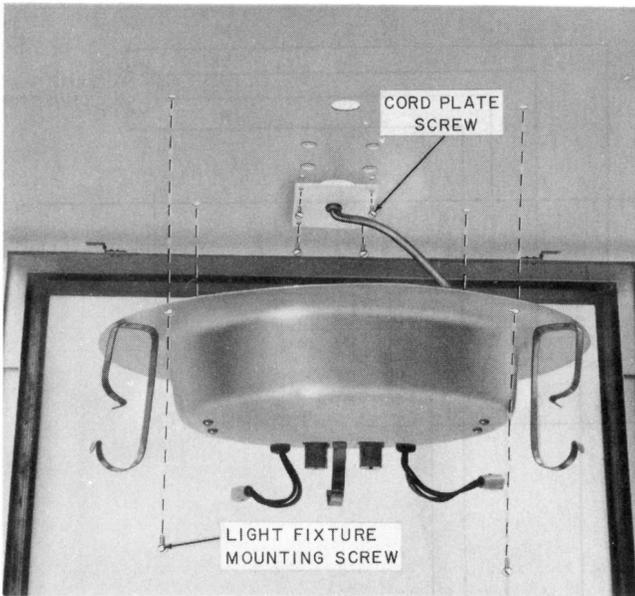

Fig. 9 — Removal of B-185379 Light Fixture
- (d) Loosen the four light fixture mounting screws (Fig. 9) and carefully lower the light fixture and place it in dome.
- (e) Remove and retain the cord plate screws (Fig. 9) and dispose of the light fixture in accordance with local regulations.